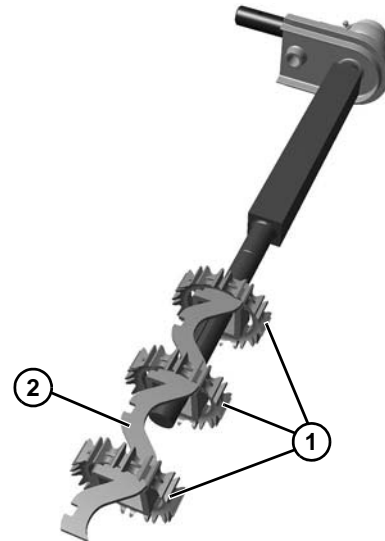

Figure 55
11. Remove the sprockets (Figure 55, item 1) and alignment bar (Figure 55, item 2).